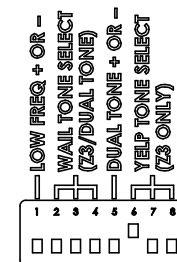

Figure 5
**Universal Dual Tone (non-Z3 Systems)** - The Dual Tone feature can be configured to operate with most industry standard siren systems, turning a single tone siren system into a Dual Tone system. The Dual Tone feature will only operate when the primary siren system is generating a tone. When there is a signal from a primary siren and the Dual Tone input is activated, the Banshee can generate one of eight tones. To configure the Dual Tone, set the DIP switches according to Table 6 (reference Figure 5).